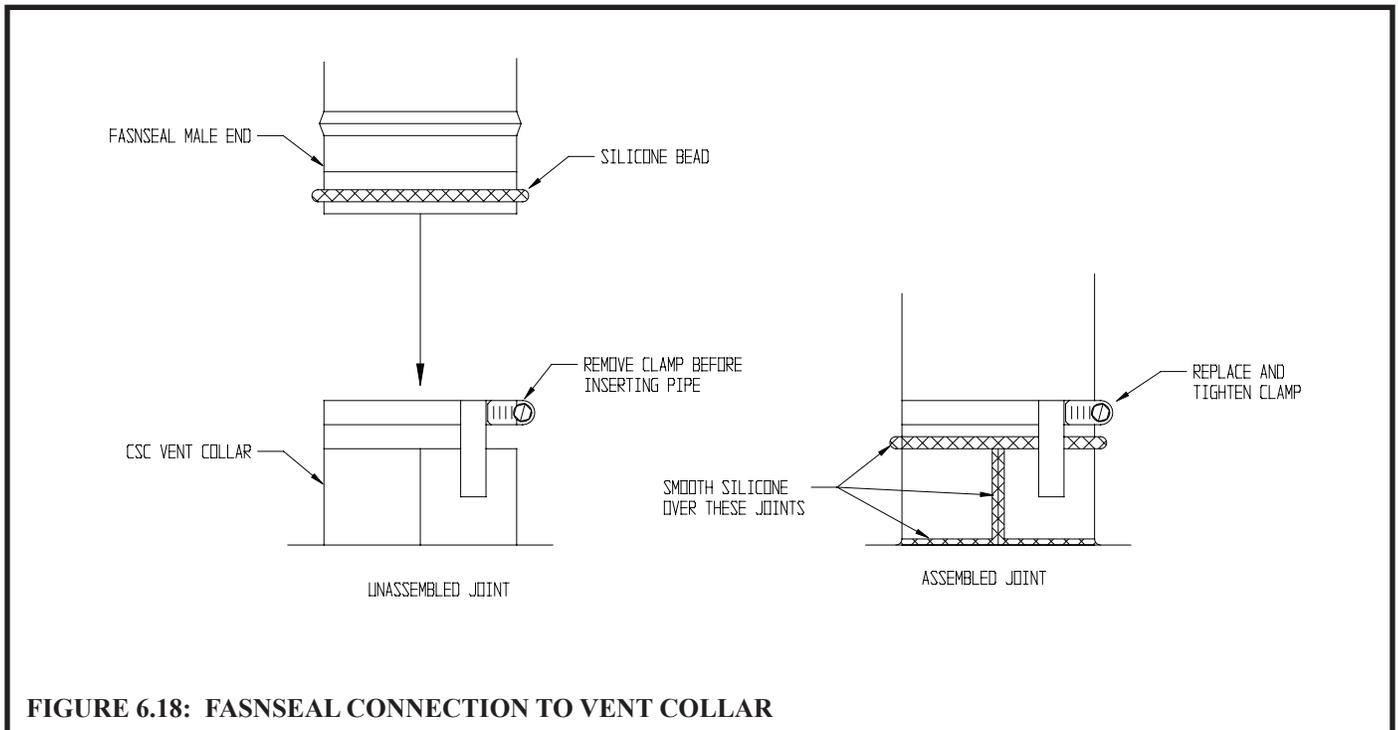

FIGURE 6.18: FASNSEAL CONNECTION TO VENT COLLAR
- a) Remove the hose clamp shipped on the CWD vent collar. Bend the three hose clamp tabs on this collar outward slightly. Clean the exterior of the male end of the first piece of pipe and the inside of the vent collar on the boiler. Remove dirt, grease, and moisture from the surfaces to be sealed. Dry surfaces or allow to dry thoroughly. On the male end of the pipe, apply a 1/4" wide bead of high temperature silicone approximately 1/4 inch from the male end of the pipe. Insert the male end of the pipe into the boiler vent collar until it bottoms out. Apply an additional bead of silicone over the outside of the joint and the seams on the vent collar and smooth out (Fig 6.18). Replace and tighten the clamp on the vent collar.
- c) Align the longitudinal seam of both pipes. Insert the male end of the second pipe into the female end of the first pipe until the bead on the male end contacts the flare on the female end (Fig. 6.18).